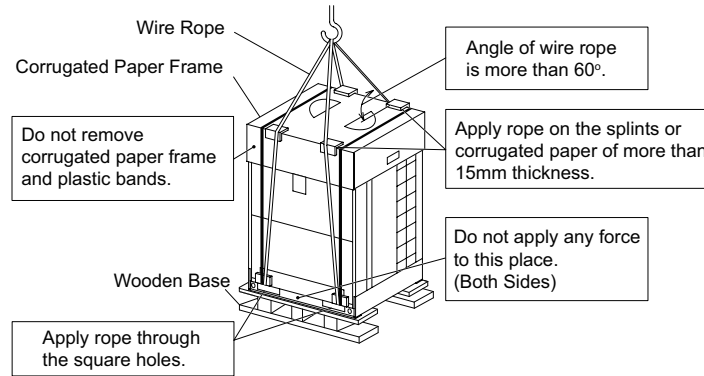

Fig. 4.1 Hanging Work for Transportation
- (1) Do not remove any packing materials.
- (2) Hang the unit under packing condition with two (2) wire ropes, as shown in Fig. 4.1.